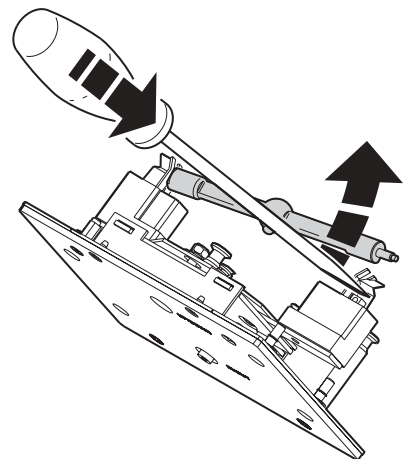

Figure 2: Lamp removal
3. Push down the retention spring on the right end of the socket and push out the pin. You can use a screwdriver to pry the lamp out of the socket as shown in Figure 2. Remove the lamp.